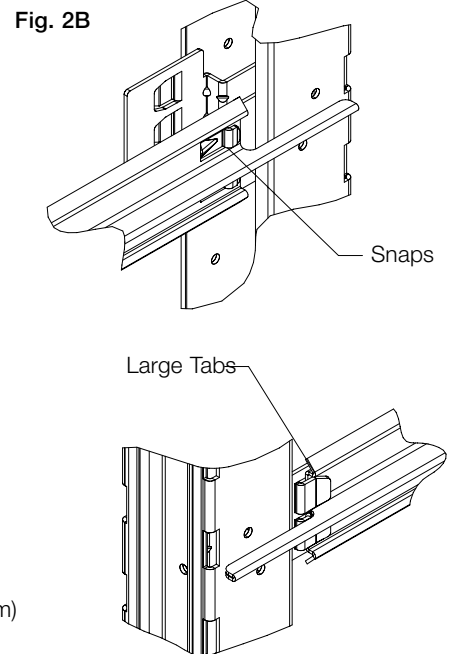

Fig. 2B
3. Tile support attached to outside of mounting bracket. (Snaps engaged.) (Fig. 2B)